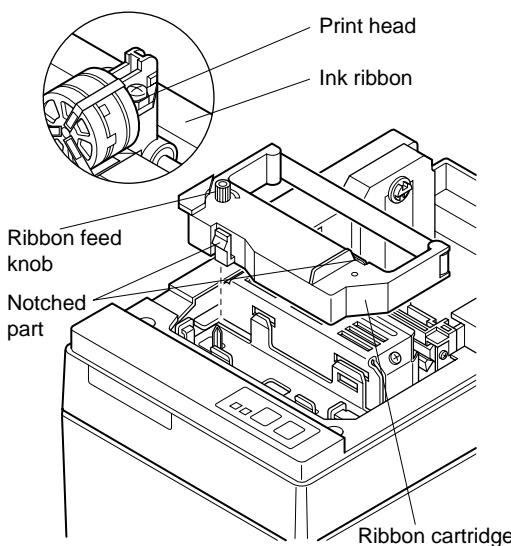

Fig. 4-2 Loading the ribbon cartridge
- ③ Place the ribbon cartridge in the direction shown in Fig. 4-2 and press it down to load it. If loading of the ribbon cartridge is not satisfactory, press down the cartridge while rotating the ribbon feed knob in the direction of the arrow.
- ④ Turn the ribbon feed knob of the ribbon cartridge in the direction of the arrow to remove slack in the ribbon.
- ⑤ Mount the cover by reversing the procedure outlined in step ② above.